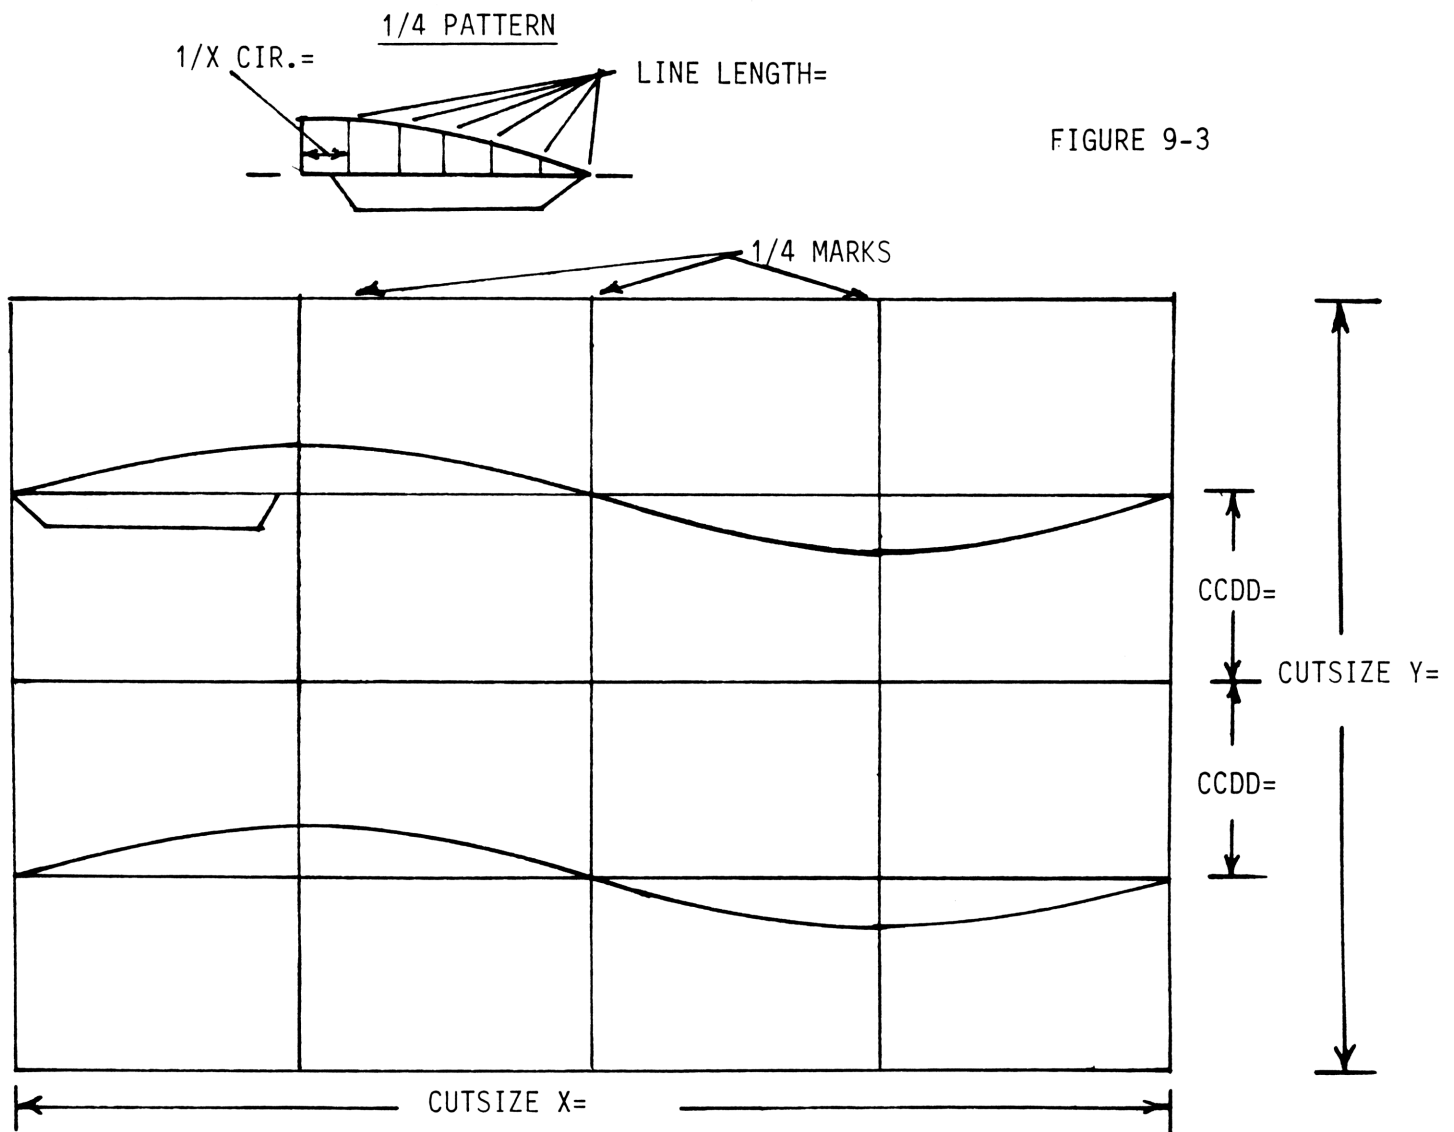

FIGURE 9-3
OUTPUTS: Refer to figure 9-3 or 9-4
IMPORTANT: FOR 3 PIECE OFFSET ONLY (CCDD LAYOUT): Refer to figure 9-3
CONSTRUCTION Refer to figure 9-3 or 9-4
Divide the height (Y) in half and mark it. Measure the CCDD distance equally up and down from the center point. See figure 9-3
It is helpful to divide the length of material into four equal segments. Please see figures 9-3 or 9-4